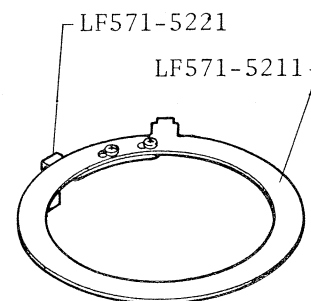

Fig.26
3. Adjustment is made by changing position of LF571-5221 aperture operating arm on LF571-5211 control ring as shown in Fig. 26.